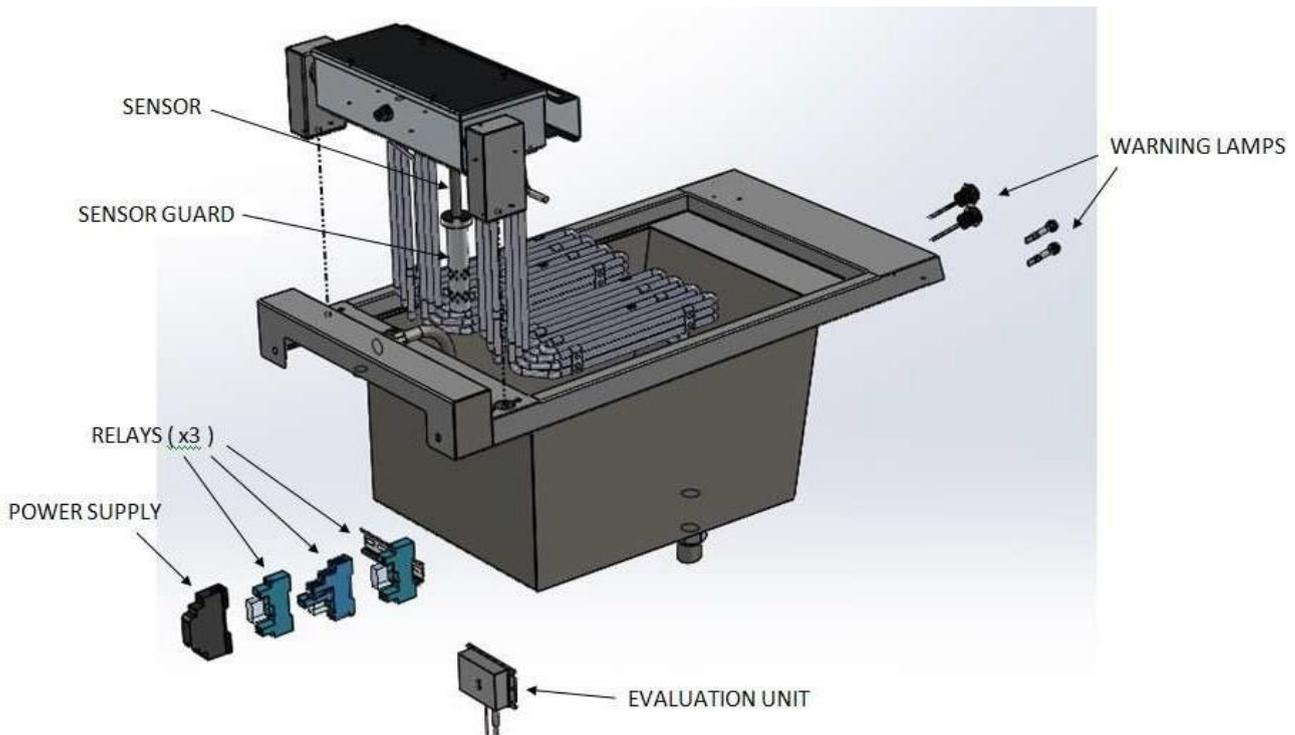

Figure 6 – Oil level sensor circuit components
**(E3840X & E3840FX only, Figure 6)**
(E3840X & E3840FX only, Figure 6)
- a) If unit has filtration, ensure filtration pump switch is in the 'OFF' position (O).
- b) Press ON/OFF switch to ON position (I).
- c) 'Check Oil Level' lamp will flash and an alarm will sound. Operator **MUST** ensure that there is oil / sufficient oil in the pan (See Figure 6).